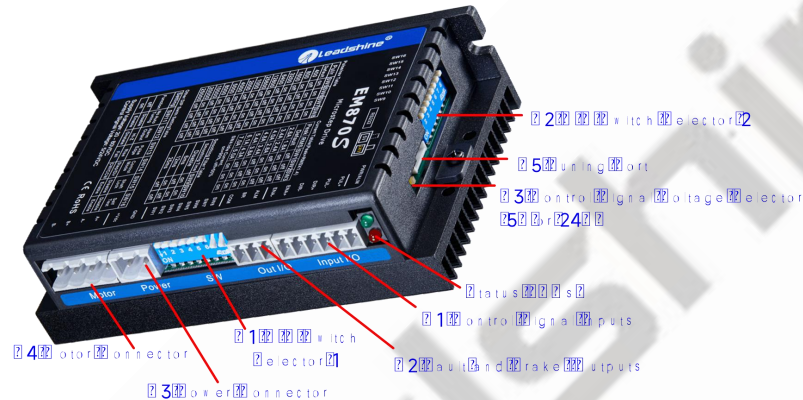

Figure 2 Connectors, DIP switches, and LED locations
(6) The activated edge of PUL and DIR is set by DIP Switch SW13
(7) The factory setting of control signal voltage is 24V, must need to set S3 (figure 2) if it is 5V
(4) The default control signal voltage is 24V, to set S3 (figure 2) if it is 5V
(5) Enable time to be at least 200ms
The DM870 can accept differential or single-ended control signals (pulse, direction, and enable) in open-collector or PNP connection through the P1 connector (figure 2). It is recommend to add an EMI line filter between the power supply and the drive to increase noise immunity for the drive in interference environments.
The first 8-bit is located on the side (DIP switch selector 1 in Figure 2) and used to configure settings of micro step resolution, output current, and motor standstill current as shown below, the factory setting of SW1-SW8 is **OFF, OFF, OFF, OFF, OFF, OFF, ON, ON**.
The second 8-bit DIP switch is located on the top (DIP switch selector 2 in figure 2), and used to configure settings of control command filtering time, motor auto-configuration, fault output impedance, pulse active edge, control mode, lock shaft, and self-test as shown below, the factory setting of SW1-SW8 is **OFF, OFF, OFF, ON, ON, OFF, OFF, OFF**.
The Third 1-bit selector is located on the top (DIP switch selector 3 in figure 2), used to configure the voltage of control signals. For the safety of optically coupled, the factory setting is 24V, which no need to connect 2K resistors like the old drives, making it easier to use. When the voltage of the control signal is 5V, the S3 must be set to 5V, otherwise, the motor won't work.